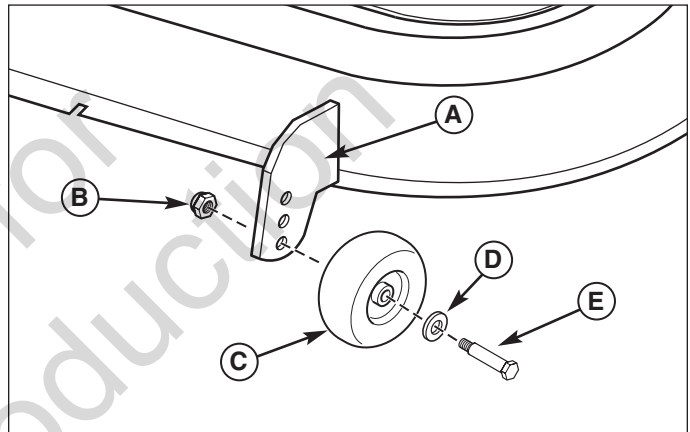

Figure 33. Fixed Bracket Gauge Wheel Adjustment
1. Remove the locknut (B, Figure 33), gauge wheel (C), washers (D), and shoulder bolt (E). Change position of gauge wheel to desired height.
2. Insert shoulder bolt (E) through washers (D) gauge wheel (C), and gauge wheel bracket (A). Secure with locknut (B). Repeat Steps 1 & 2 for all gauge wheels.